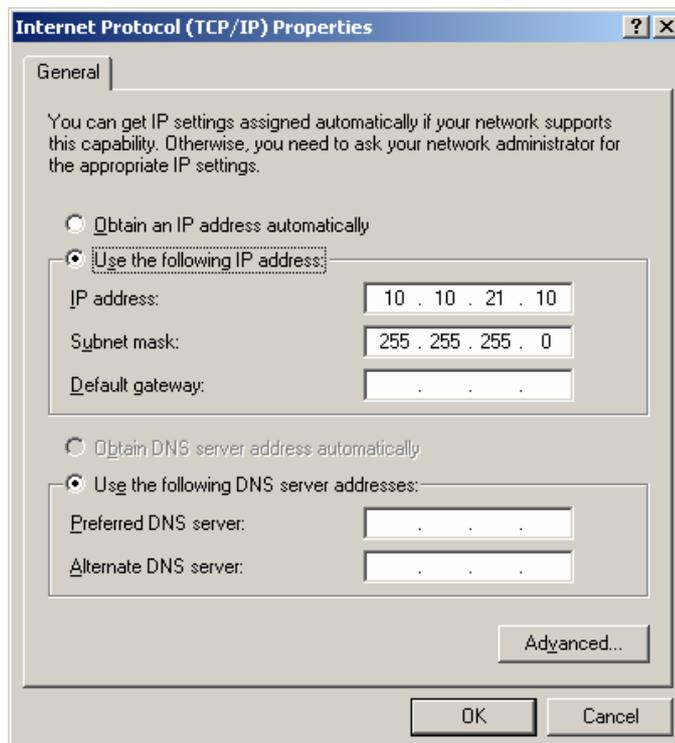

Figure 17
11. Set your TCP/IP settings, in your local area Connection, to the same subnet as the PN-IO, as shown in figure 17 below.